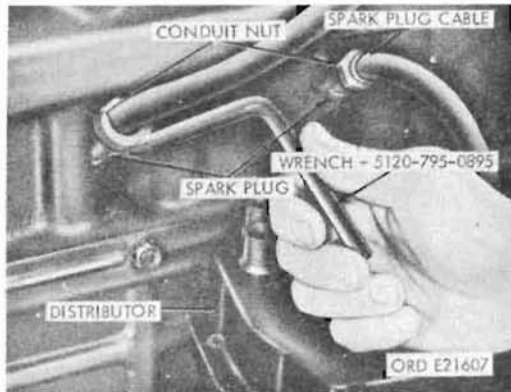

Figure 145. Removing spark plug cable with wrench 5120-795-0895
- (2) Remove the adapter from the distributor and connect the spark-plug cable to distributor. Remove the other end of the cable from the spark plug (b below) and insert an adapter in the end of the cable. Check the output with the tester. Replace the defective cable. If the cable is shorted or grounded, replace the spark plug used with the cable (par. 98).
b. Removal. Unscrew the conduit nuts on both ends of the spark-plug cable, using wrench 5120-795-0895 (fig. 145), and remove the cable from the spark plug and distributor cover.
c. Installation. Position the cable between the distributor and the spark plug, and start the nuts with the fingers to avoid damaging the threads. Tighten the nuts with wrench 5120-795-0895 (fig. 145).